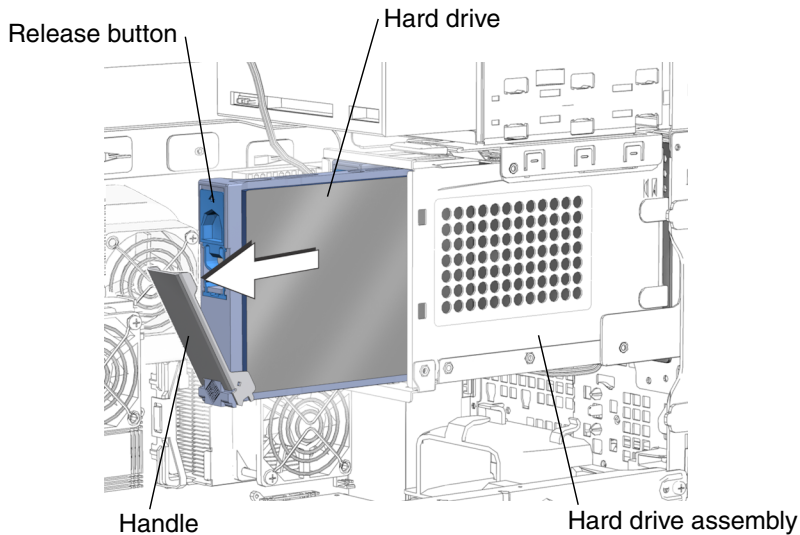

FIGURE 12-3 Removing the Hard Drive From the Hard Drive Assembly
3. Unlock the hard drive handle (FIGURE 12-3).
Pull the hard drive by the handle out from the hard drive (FIGURE 12-3).